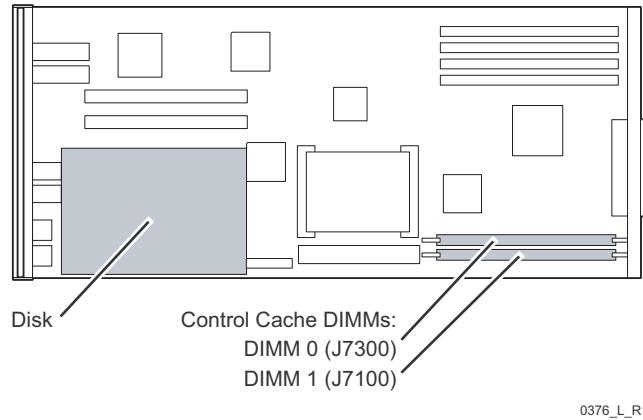

Figure 13-2. Control Cache DIMMs
- 13 Locate the control cache DIMM that requires replacement (Figure 13-2).